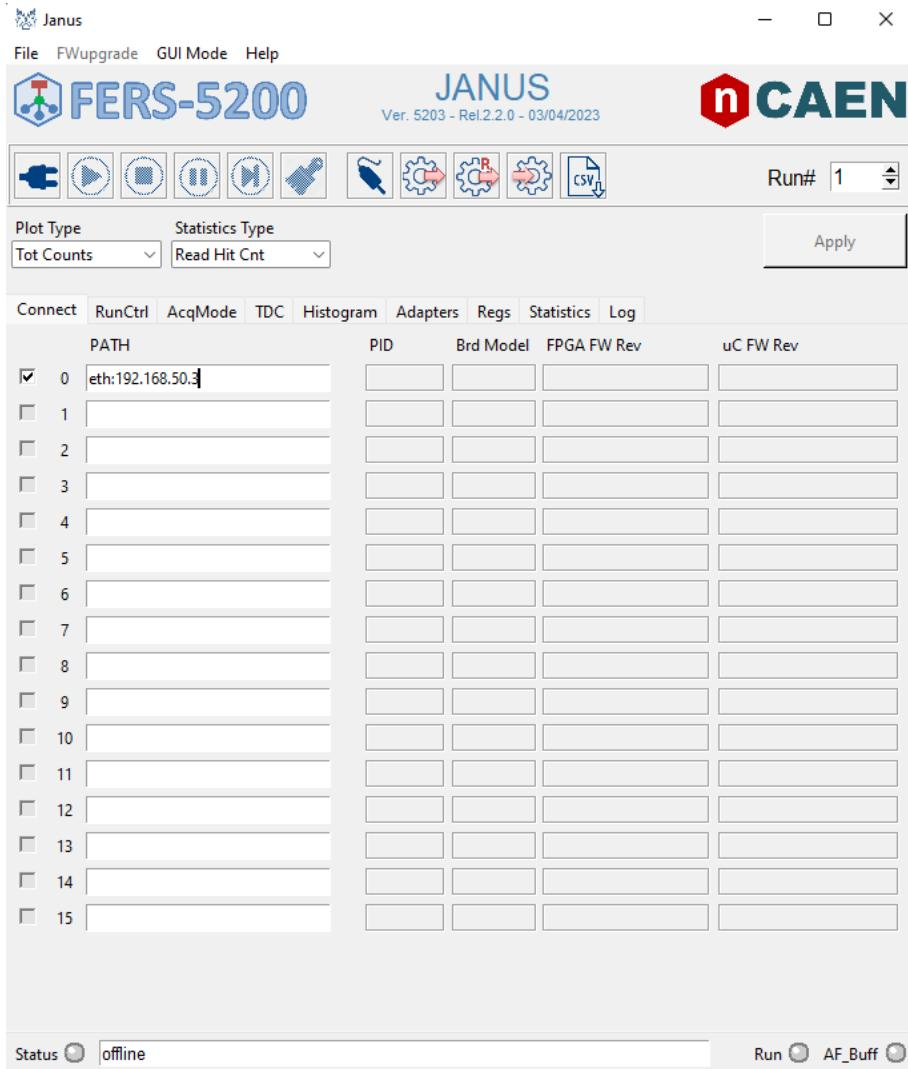

Fig. 11.15: Starting window of the Janus 5203 software GUI.
3. Double click on the **JanusPy.pyw** executable file. No installation steps will be required and a window similar to the one in Fig. 11.15 will be opened. The connection between the software and the board is not yet established.
- "usb:0" in case of an USB connection. It is also possible to use the syntax "usb:PID", being PID the unique board identification number that is located either on the bottom of the A5203(B) PCB or on the front panel of the DT5203.
- "eth:192.168.50.3" (as it is shown in **Fig. 11.15**) or another Ethernet address in case this was changed (see Sec. 11.2.1).